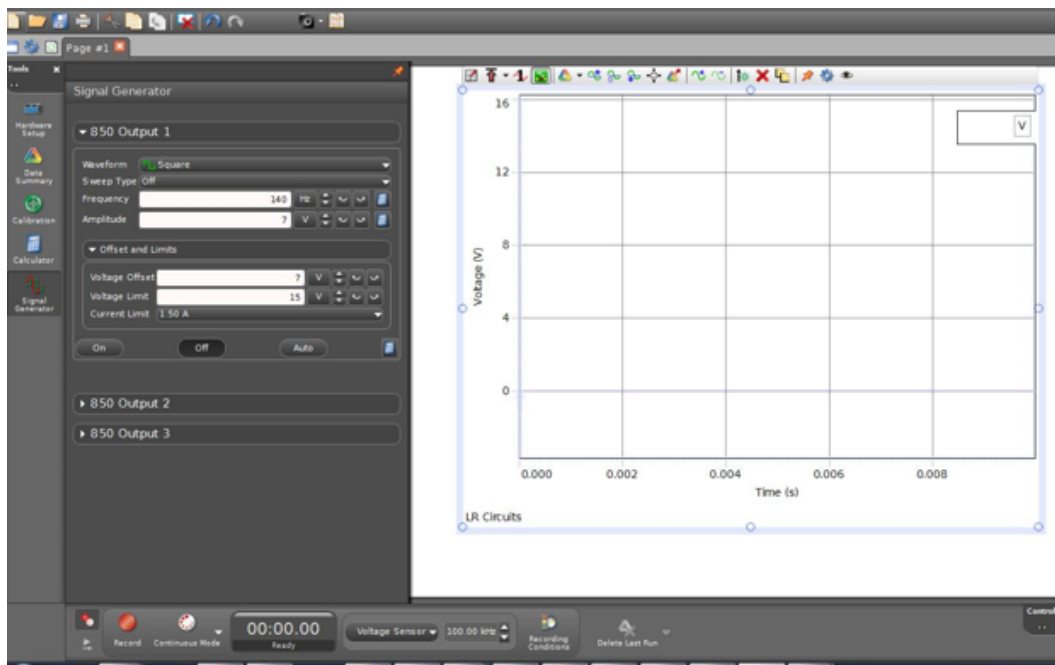

Figure 8: Opening screen of LR circuit file
- 5 Open the Capstone file associated with this lab. A screen similar to Fig. 8 is displayed.